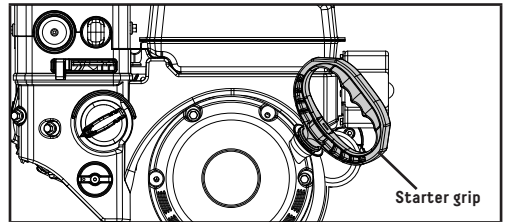

Figure 11C
6. Stand back and to the right of the unit, pull the starter grip lightly until you feel resistance then pull briskly. Return the starter grip gently (Fig. 11C).